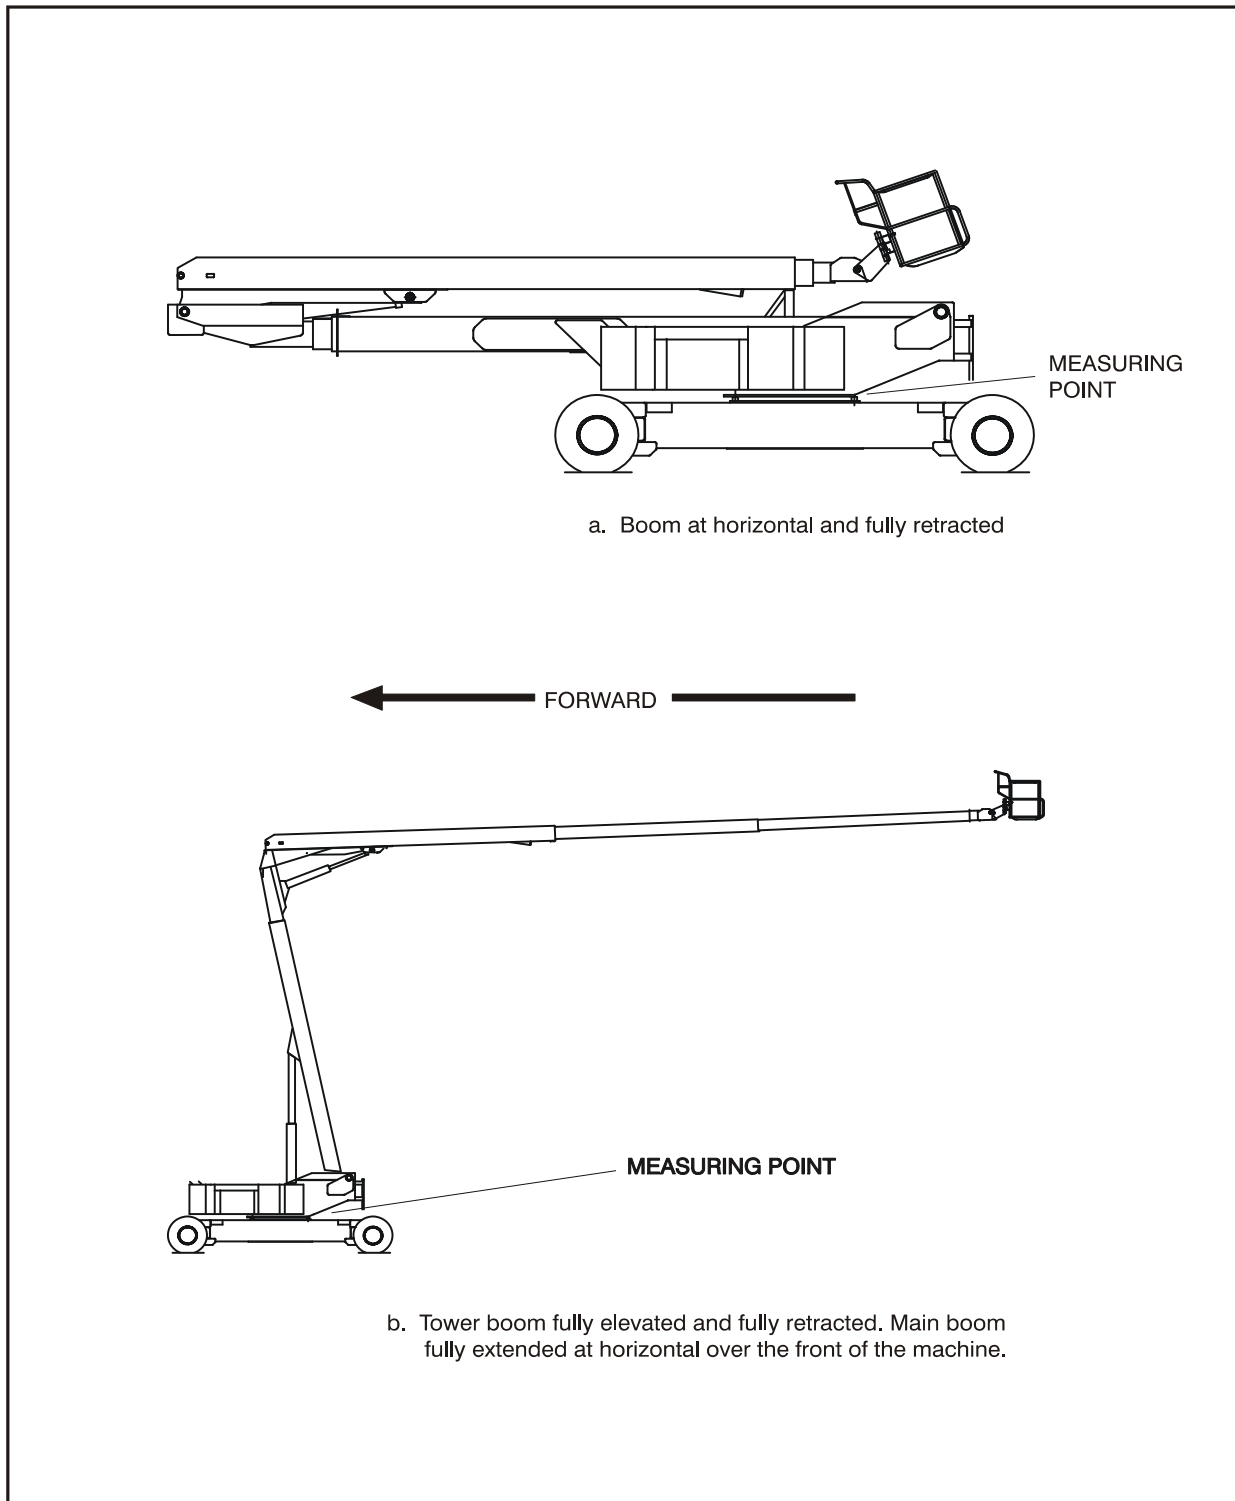

Figure 3-19. Swing Bearing Tolerance Boom Placement
1. From underside of machine, at rear center, with tower boom fully elevated and fully retracted and main fully elevated and fully retracted (See Figure 3-19.), using a magnetic base dial indicator, measure and record the distance between the swing bearing and the frame.
2. At the same point, with tower boom at horizontal and fully retracted and main boom at horizontal and fully extended (See Figure 3-19.), using a magnetic base dial indicator, measure and record the distance between the swing bearing and frame. (See Figure 3-19.)